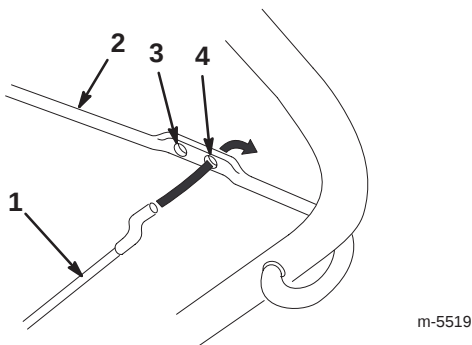

Figure 9
5. Insert the loose end of the control cable into the bottom hole in the control bar (Fig. 9).